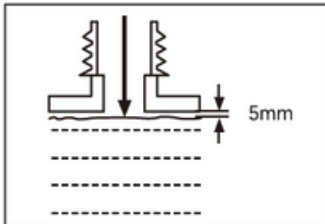

Fig. 7
4. Pour the correct amount of fuel into the tank. Leave a minimum of 5 mm (0.2 in) gap between the top of the fuel and the inside rim of the tank to allow for expansion (Fig. 7).